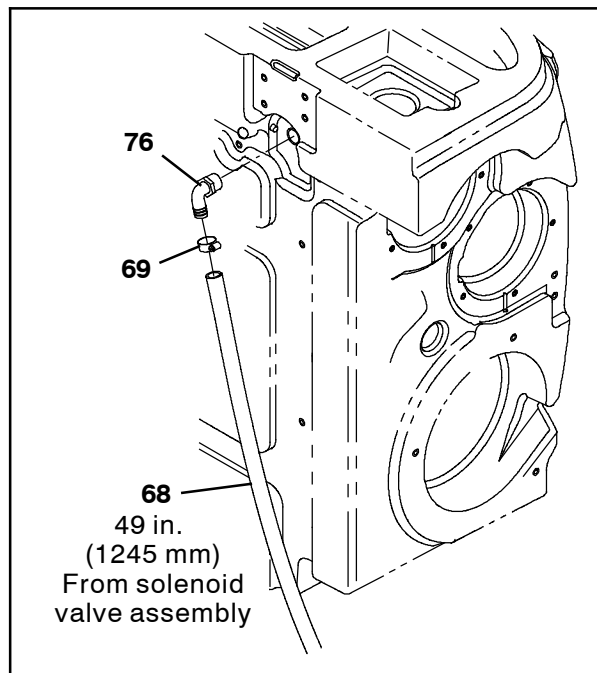

FIG. 10
76. Use thread sealant to secure the plastic elbow fitting (76) in the 0.875 in (22.225 mm) hole previously drilled into the front of the recovery tank. (Fig. 10)
77. Route the 49 in. (1245 mm) PVC hose (68) from the solenoid valve assembly up into the battery compartment, to the elbow fitting (76), and use a hose clamp (69) to connect the PVC hose to the elbow fitting. (Fig. 10)